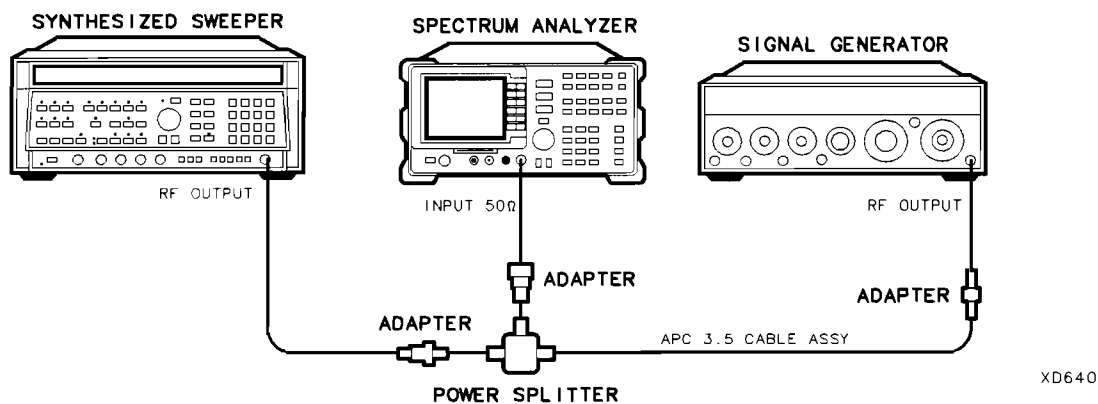
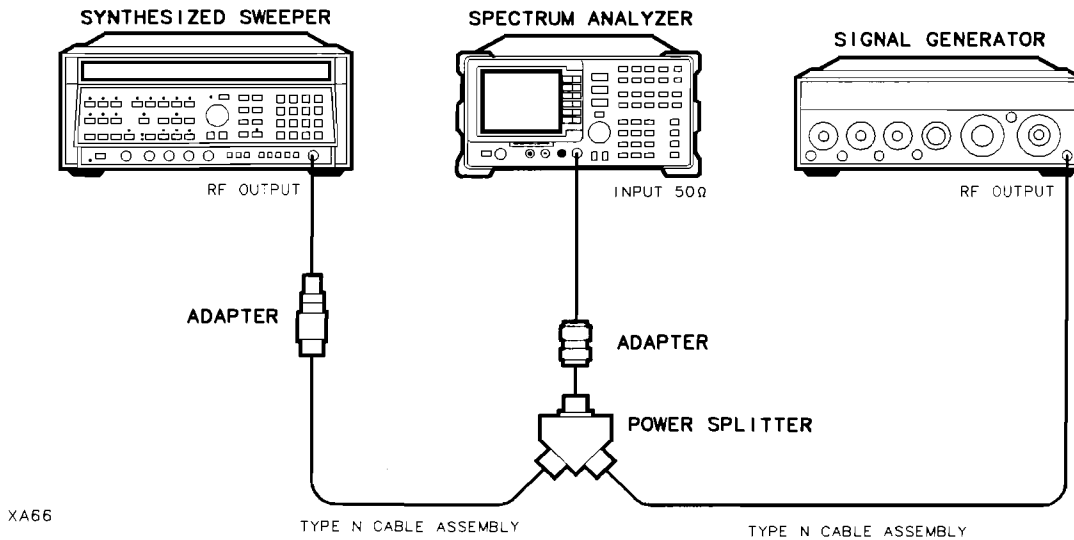

Figure 2-11. 1800 MHz Frequency Span Readout Accuracy Test Setup
Figure 2-12. For HP 8594E Only - Frequency Span Readout Test Setup
1. Connect the equipment as shown in Figure 2-11, Figure 2-12 for HP 8594E. Note that the Power Splitter is used as a combiner.